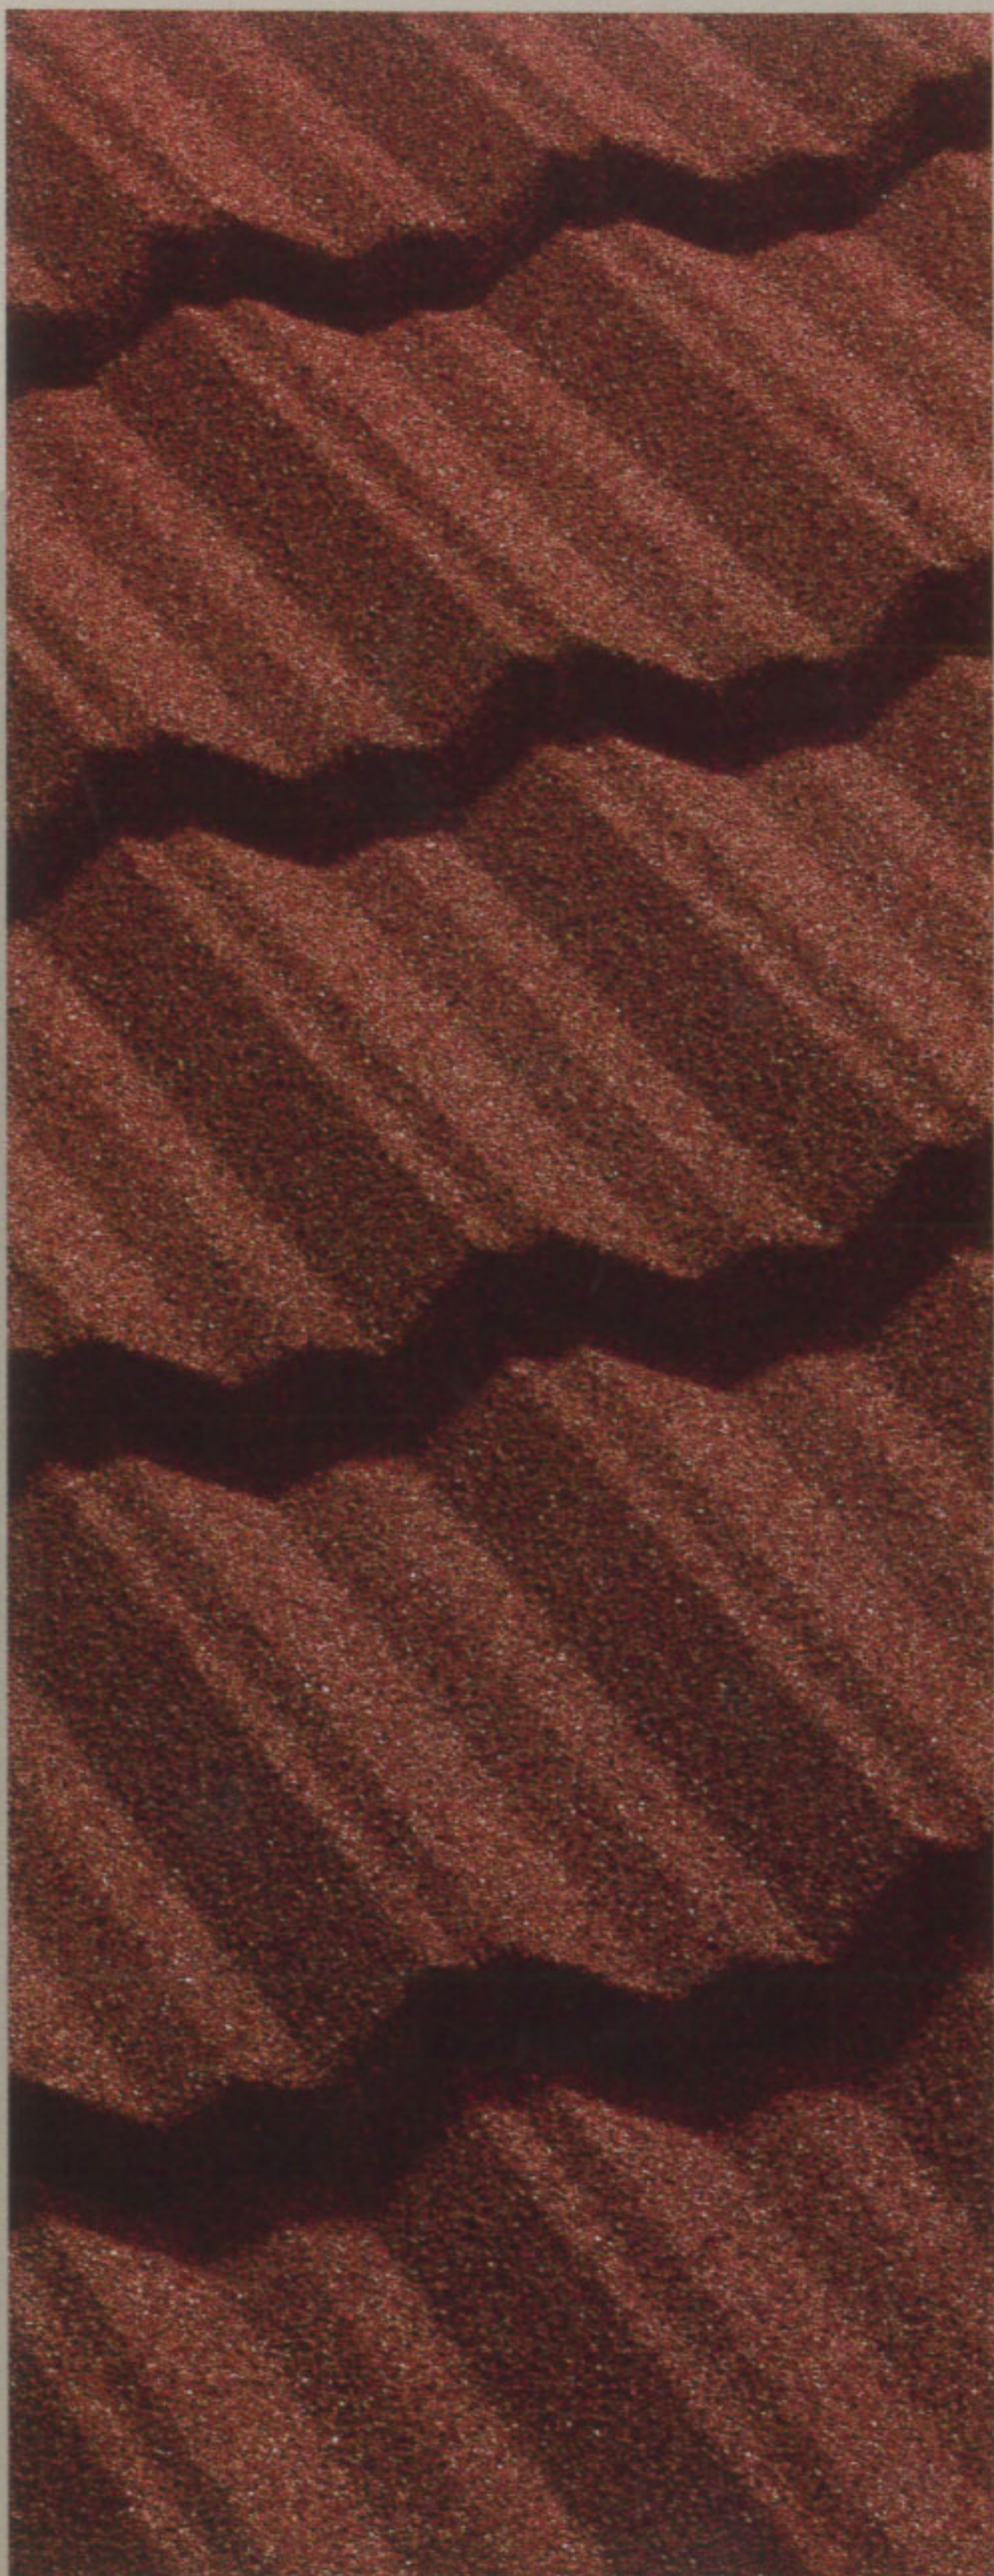
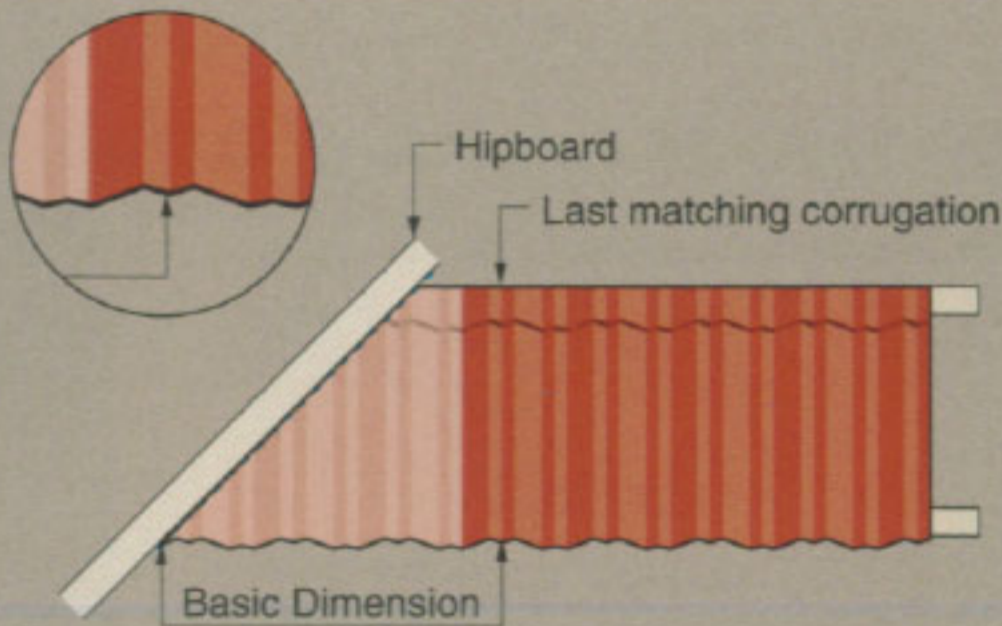

FIG 3.7.1
FIG 3.7.2
- (i) The basic measurement is taken from the last corrugation of the bottom corner of the last tile, to the hip board, along the front edge of the batten (Fig 3.7.1).
- (ii) Measure and mark on the tiles with chalk or similar the required measurements taken from the roof, ensuring the matching corrugation of the overlapping tile to be cut, is taken as the measure starting point (Fig 3.7.1). This forms the Bending Line (Fig 3.7.2). Add to the bending line measurement, the height of the ridge board projection above the tile line. Mark on the tiles with chalk or similar. This forms the Cutting Line (Fig 3.7.2).
Each tile should supply two cut pieces leaving minimum wastage (Fig 3.7.2).